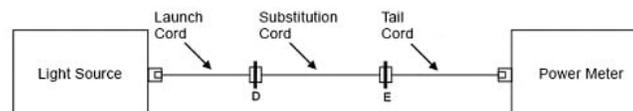

Figure 10. Check for low loss connections
a. Add a tail cord to the power meter and a substitution cord between the launch and tail cords and check for low loss connections such as 0.4 dB for single-mode (see Figure 10).